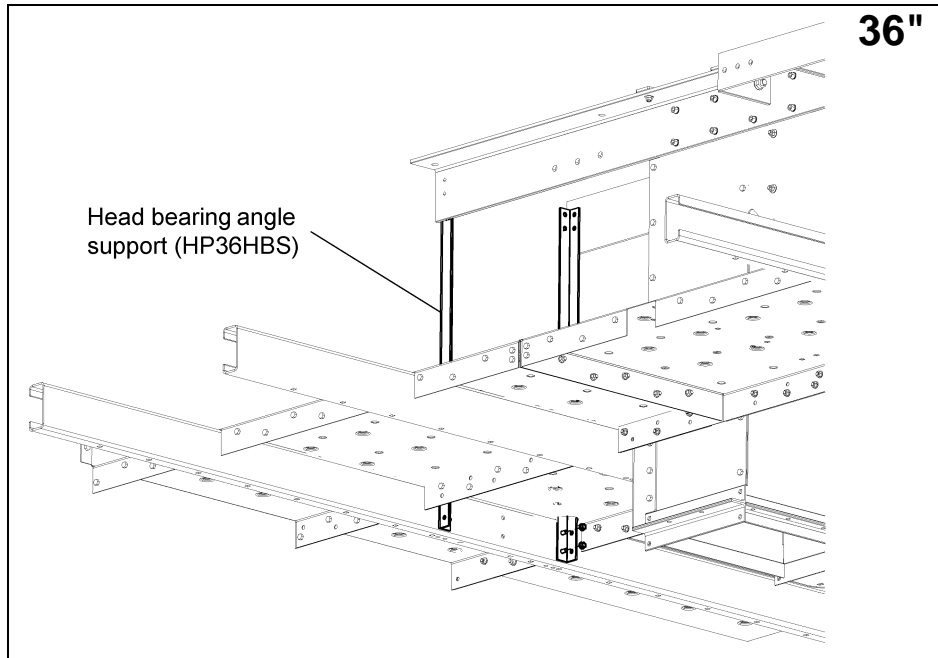

Figure 8Q 36" Bearing Support Angle
1. Place two (2) head bearing angle supports (HP36HBS) as shown in Figure 8Q.